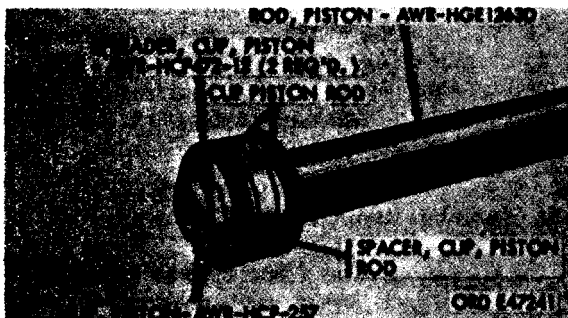

Figure 453. Piston assembly
(b) Remove twopistonnuts, piston rod cup spreaders, piston rod cups, and one piston rod cup spacer (fig. 453) from piston rod.
- (a) Install piston rod wiper spring (R) on leather wiper (S).
- (b) Position piston rod O-ring gasket (P), felt wiper (Q), leather wiper (S), and cylinder head washer (T) in cylinder head (L). Secure with cylinder head snap ring (U). Position cylinder head O-ring gasket (K) on cylinder head.
- (c) Slide cylinder head (L) on piston rod (v). Assemble piston rod cup spreaders (E and J), cups (F and H), and cup spacer (G) on piston rod as shown in figure 453. Secure with piston rod nuts (D and C).
- (d) Install four cylinder head studs (A) in boom cylinder (B). Apply a coat